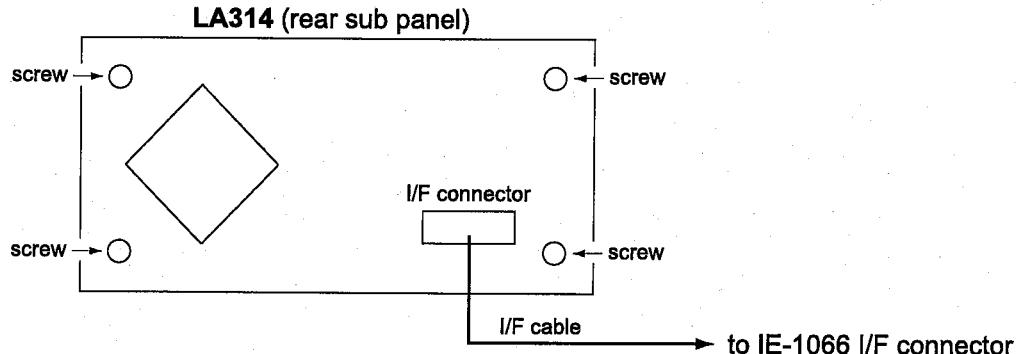
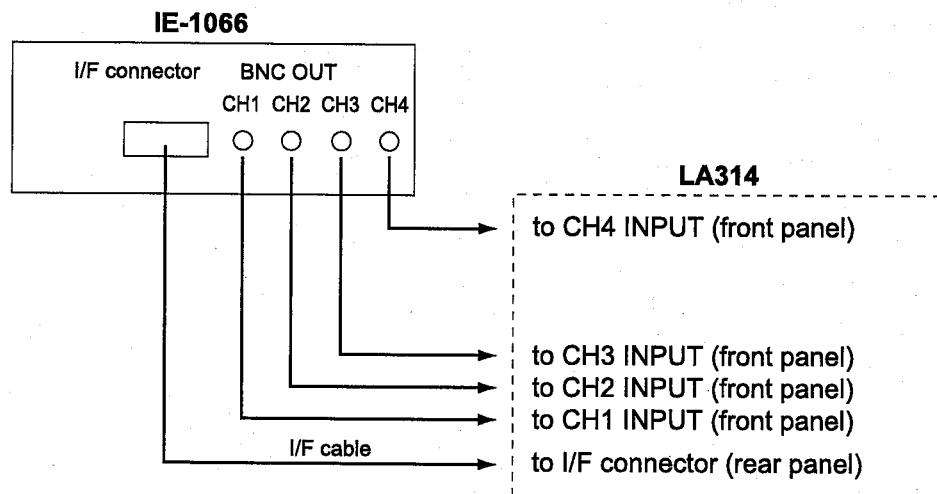
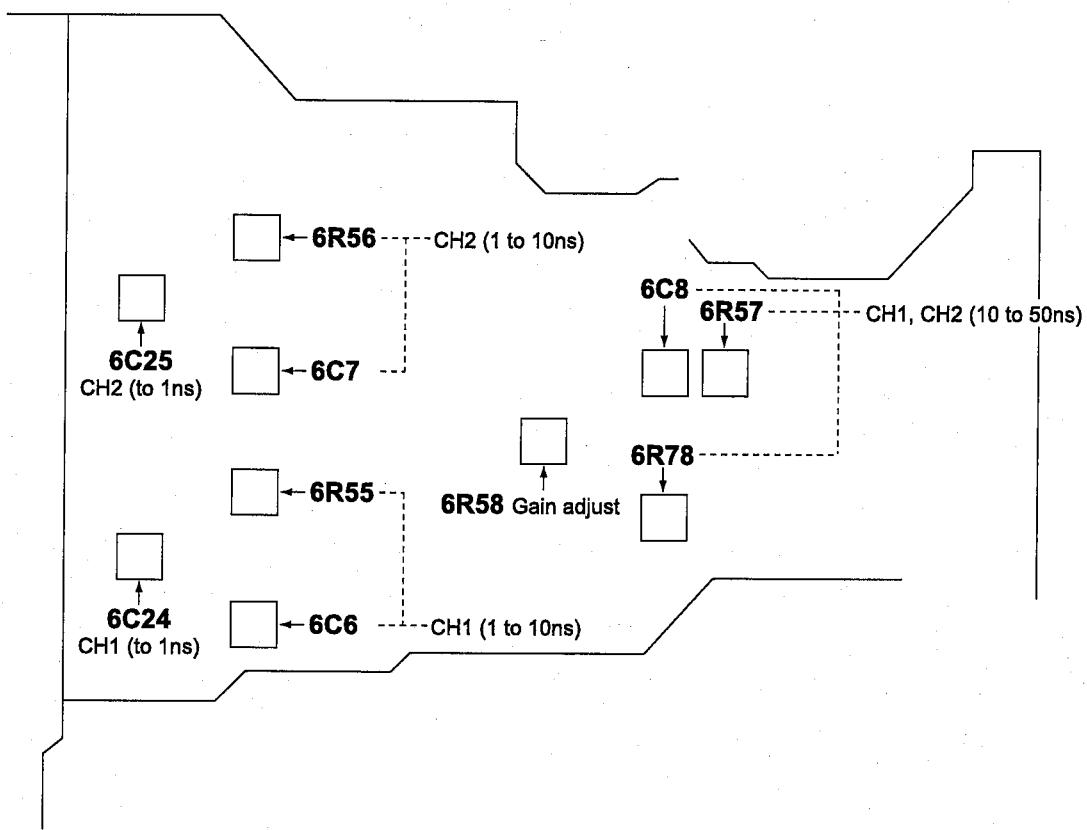

Figure 2.1 Rear sub Panel of LA314
Figure 2.2 Connection IE-1066 to LA314
Figure 2.9 ANA MAIN BOARD IV (CHANNEL SW & DL DRIVER)
- ① Connect between the IE-1600 I/F connector and LA314 I/F connector with the exclusive I/F cable (See Figure 2.1 and Figure 2.2).
- ② Connect between the IE-1066 OUTPUT connectors and the LA314 INPUT connector with the BNC coaxial cables (See Figure 2.2).
See Figure 2.1 to Figure 2.9.
| Figure 2.9 ANA MAIN BOARD IV (CHANNEL SW & DL DRIVER) | : See page 2-23 |